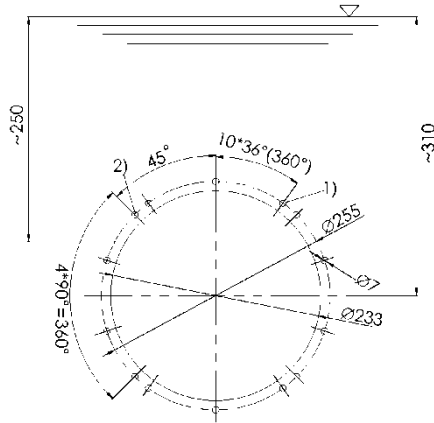

Figure 3
d) Using the template drill 14 holes into the fibreglass pool shell. (Figure 3)
f) Mount the counter current jet faceplate onto the fiber pool using 10 piece of M6 screws. (Hole 1 in Figure 3)
- b) Opened the corresponding holes from inside of the cement bag and the holes should be completed with the fiber pool (figure 3).